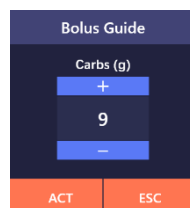

Figure 15.8
(2) Click “Bolus Guide”, click “+” or “-” to set the amount of carbs in the pop-up interface (as shown in Figure 15.8), then click “ACT”, the system will automatically estimate the bolus, or click “ESC” to stop the bolus guide. The BG value you input will be saved to the history.